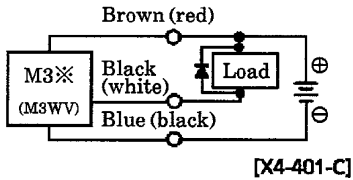

Fig. 3 Absorption device (diode) set in parallel to the inductive load. Use V06C (Hitachi) or its equivalent for the diode.
- With an inductive load (relay, electromagnetic valve), surge voltage occurs when the switch is turned off. To protect the circuit, be sure to install a protection circuit shown in Fig. 3.